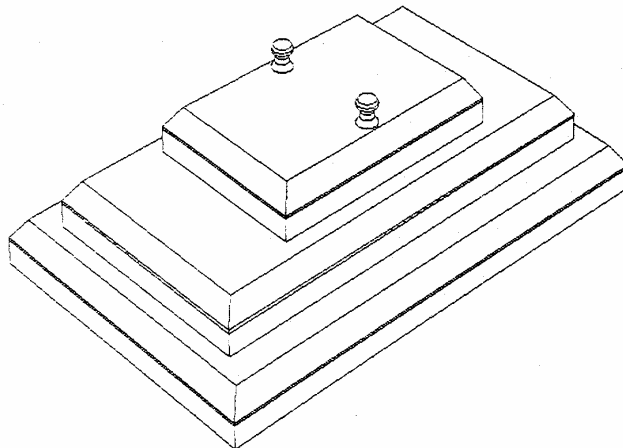

Figure 6-13. Slim-line Whole Body Phantom fully assembled
- The final assembly will form a pyramid. (See Figure 6-13.) It is important that the phantom is placed in exactly the same configuration every time it is scanned.